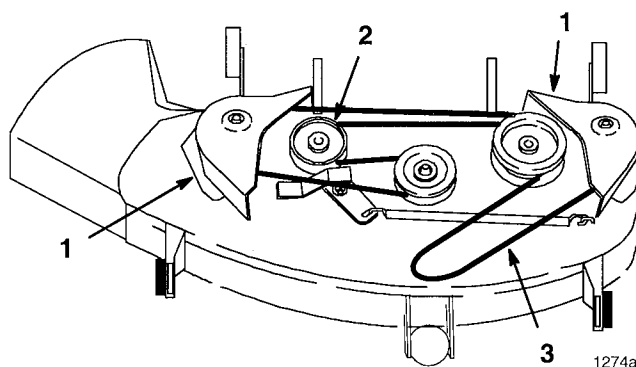

Figure 24
2. Remove the pulley cover mounting screws and pulley covers from both blade pulleys (Fig. 24).
3. Remove the belt from the pulleys (Fig. 24).
2. Install the left and right pulley covers with the mounting screws (Fig. 24).